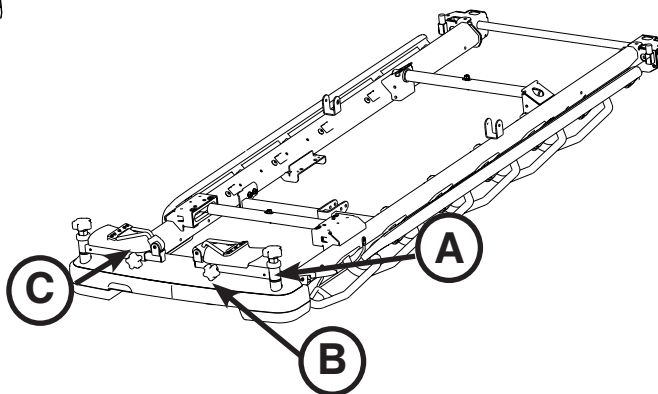

Figure 42: Foot Supports In Stored Position
To store the foot supports (see Figure 42):
1. Fully retract the foot supports using leg knob (B).
2. Fold the foot support pads (C) down toward the support bar.
3. Loosen the knee knob (A), rotate the foot supports to the position shown in the Figure 42 below.
4. Tighten to secure in place using the knee knob (A).